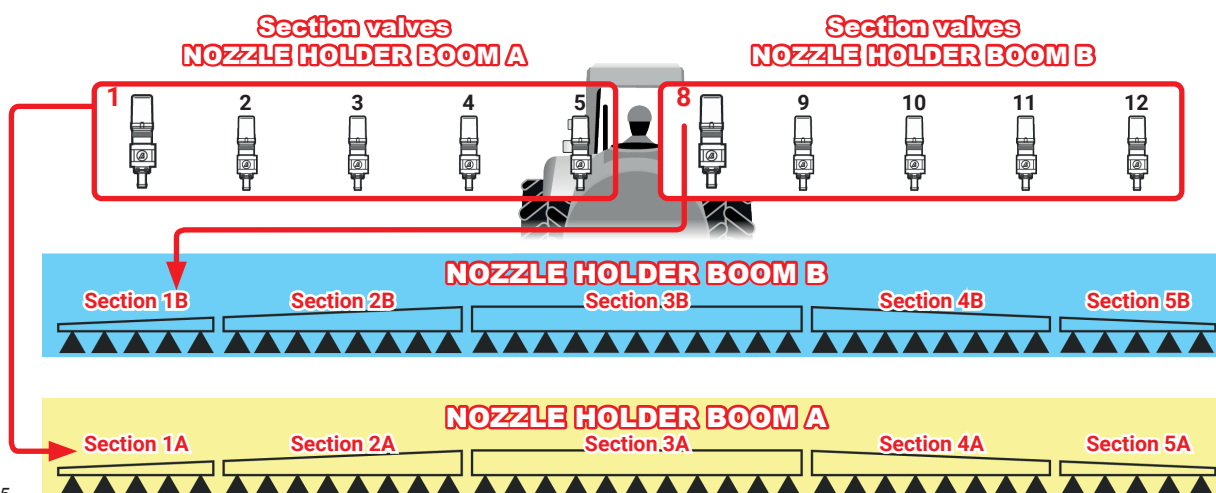

Fig. 25
For all booms with a number of sections lower than 7, Fig. 25) connector 8 must ALWAYS pilot the valve connected to section 1 of the second boom (B): boom section 1 is the leftmost one when looking at the machine from behind.